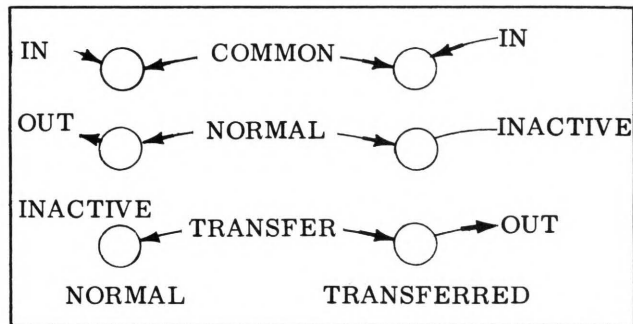

Figure 43. Selector (Illustrated).
Each selector contains one set of common (C), normal (N), and transfer (T) hubs. Internal wiring connects the common hub to the normal hub. Therefore, a wire carrying an electrical impulse into the common hub, will emit from the normal hub. However, when the selector is energized (transferred), the connection between common and normal hubs is broken, and a connection is established between the common and transfer hubs. Therefore, an electrical impulse wired into the common hub of an energized selector, will emit from the transfer hub. This condition continues until the selector is de-energized (dropped). Then the connection between common and normal hubs is re-established. Figure 43 illustrates a selector in both the normal and transferred condition.